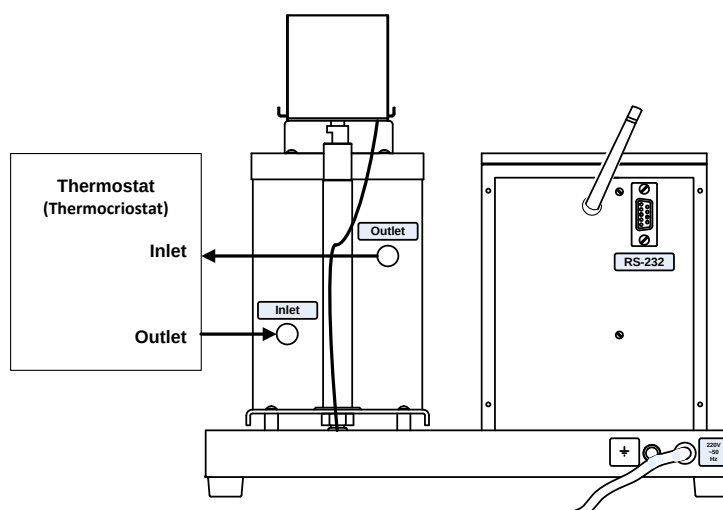

Figure 6 –Connection to an external thermostat (thermocryostat)
4.4.1.8 Connected to an external thermostat (thermocriostat), it is necessary to connect medical tubes polyvinyl chloride inlet and outlet of the cooling block of the tester of the ATH-20 with the output and input external thermostat (thermocriostat), accordingly (see figure 6).